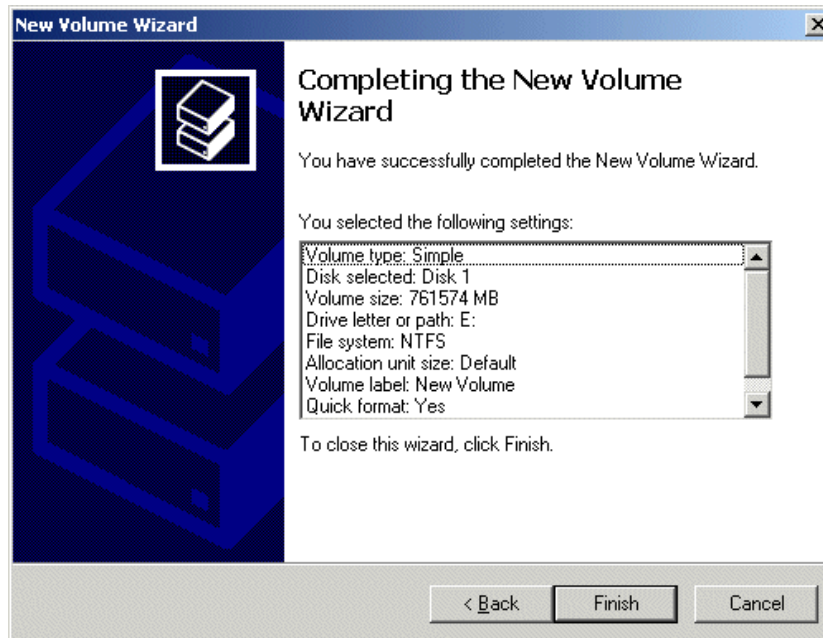

Figure 3-33. The Completing the Wizard dialog
- 28) Click the **Next** button to be presented with the **Completing the New Volume Wizard** screen as shown in Figure 3-33.